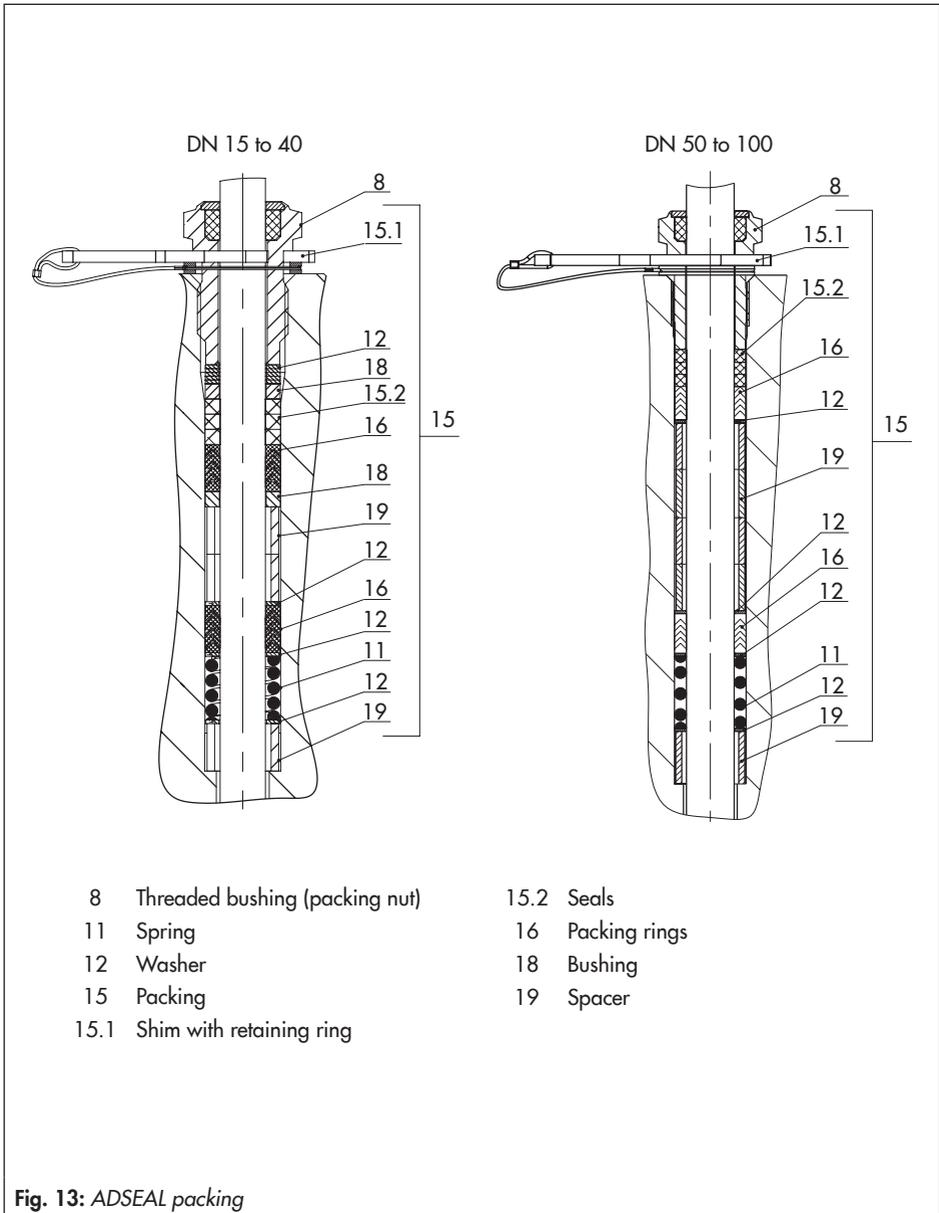

Fig. 13: ADSEAL packing
1. Carefully slide the packing parts over the plug stem into the packing chamber using a suitable tool. Observe the proper sequence (see Fig. 13).
3. Insert the red spacer ring (15.1) between the threaded bushing (8) and retaining ring. See Fig. 13.